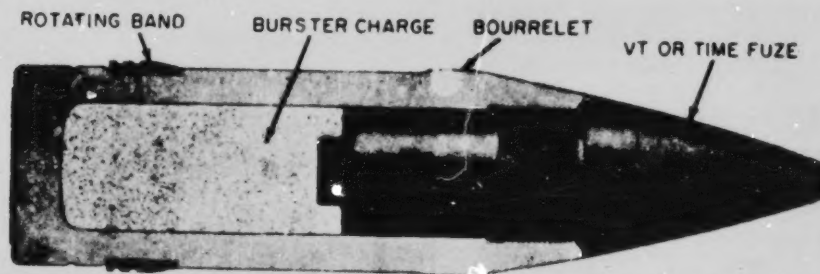

Figure 3-6.— Typical antiaircraft projectile, sectional view.
b. Antiaircraft (AA) (fig. 3-6) designed to burst in air for use against aircraft. They are usually fuzed to function either upon approaching the target (VT or proximity fuze), or at a certain pre-set time after firing (time fuze).